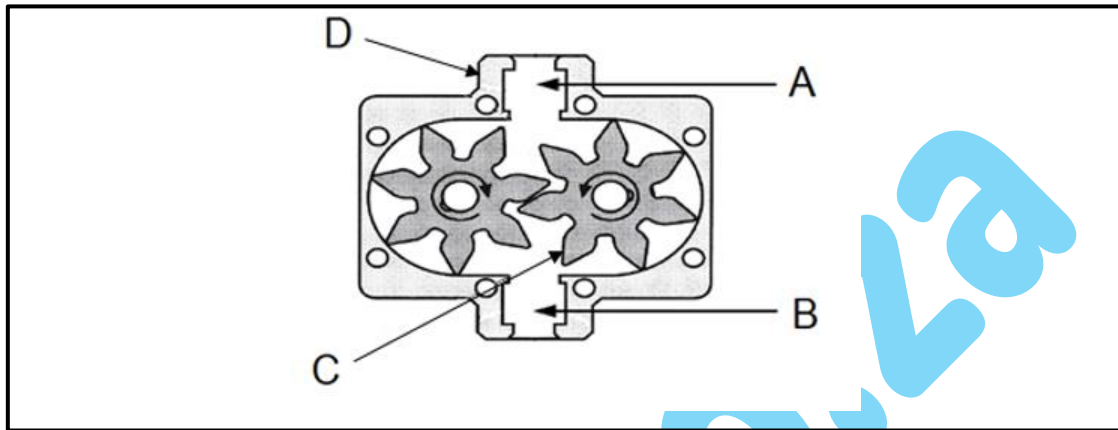

FIGURE 2
- 7.2 FIGURE 2 shows a sketch of a gear pump.